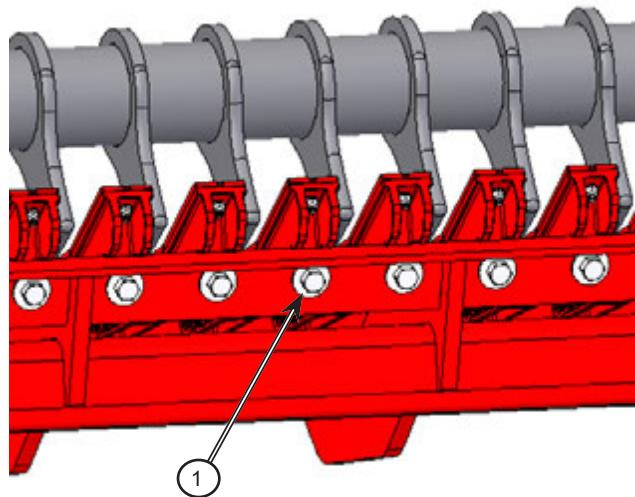
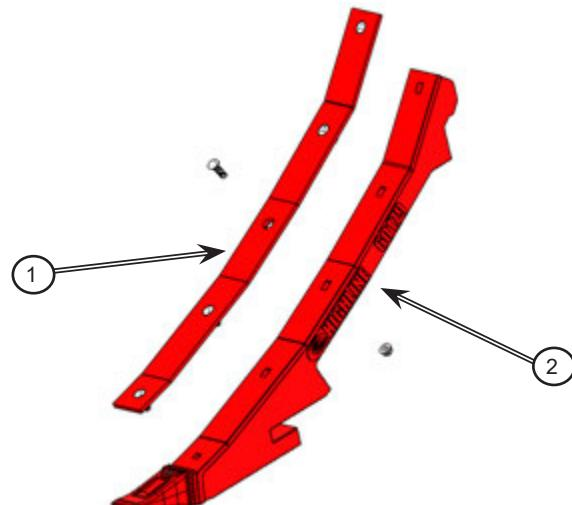

Figure 6.30: Remove the tine from the apron
Figure 6.31: Install a new wear plate
2. Remove the tine from the apron; see *Figure 6.30*.
- a. Remove the hex bolt and washer (1) fastening the tine onto the apron. Set aside for reuse.
4. Install the new wear plate; see *Figure 6.31*.
- a. Fasten the wear plate (1) onto the tine (2) using plow bolts and flange lock nuts. Ensure the plow bolts are slightly recessed after installation.